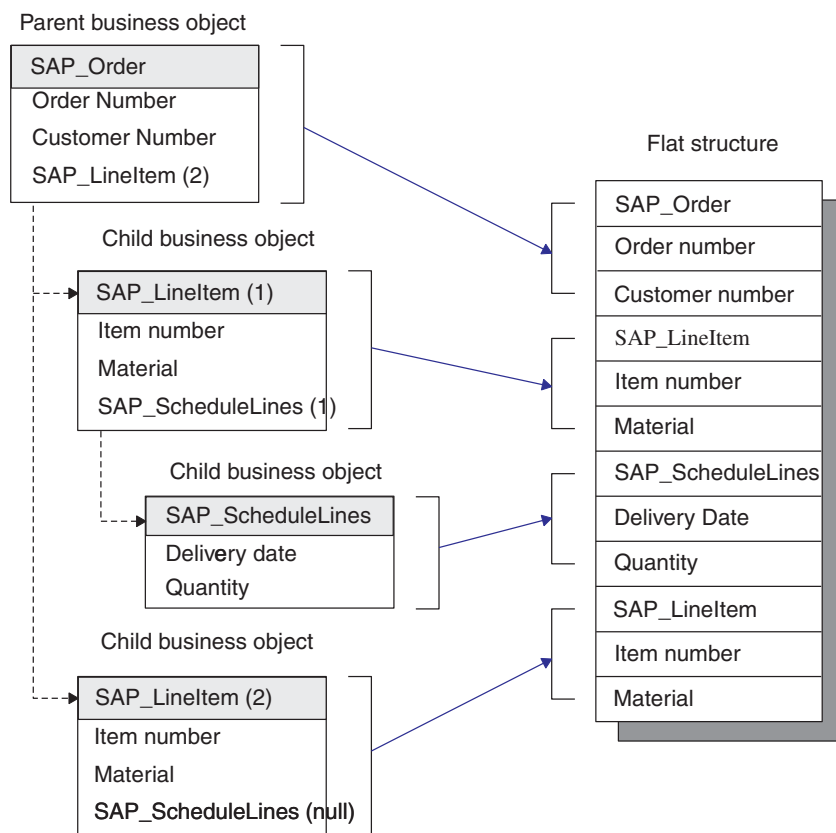

Figure 70. Conversion from a business object to a flat structure
Figure 70 illustrates the data conversion of a WebSphere business object for SAP into a flat data structure. The conversion of data always follows the rule of depth first and then breadth. In the example, the top-level parent business object, SAP_Order, has two children, SAP_LineItem (1) and SAP_LineItem (2), which are considered peers. SAP_LineItem (1) has one child business object, SAP_ScheduleLines.